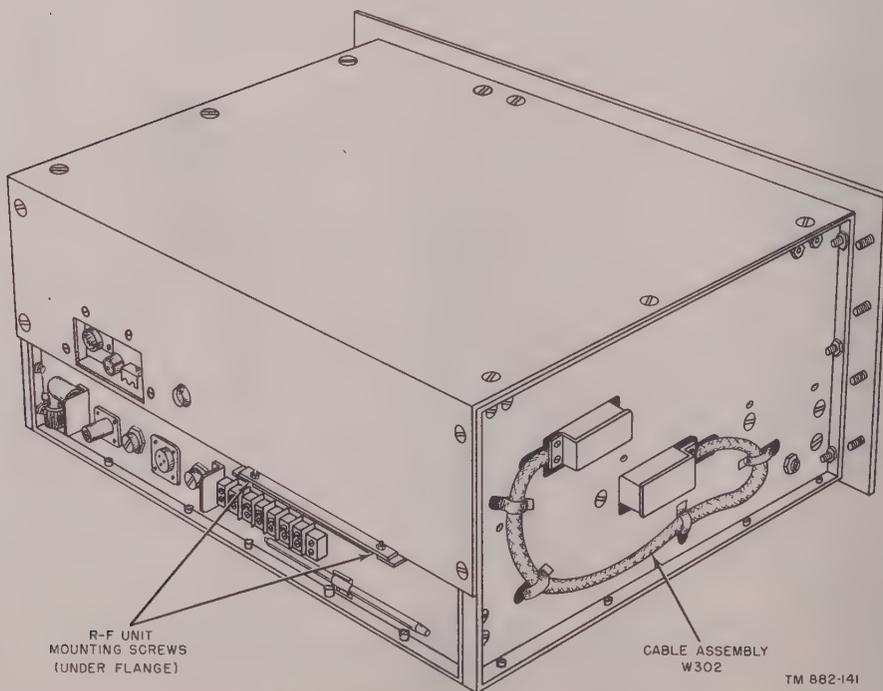

Figure 16. Radio Receiver R-220/URR, showing dust cover removal.
c. *Removal of Dust Cover* (fig. 16). A dust cover is fastened by means of 16 screws to the top and rear of the receiver. Access can be had to the alining tool and wrenches and to all controls and jacks at the rear of the receiver, while this dust cover is in place. The dust cover and base plate must be removed, however, before the power supply or the r-f unit can be withdrawn from the main unit. To remove the dust cover, release the eight screws which fasten it to the top of the main unit, the four screws which fasten it to the rear of the main unit, and the four screws which fasten it to the rear of the power supply unit. With the dust cover removed, access is also had to the rectifier tube and to the antenna adapter. To remove the base plate, release the eighteen screws which hold the base plate to the bottom of the main unit.
- (2) Remove the four front-panel screws which hold the r-f unit in place (fig. 18). Remove the two mounting screws at the rear of the r-f unit (fig. 16).
- (3) Disengage the interconnecting cable assembly, W302, from the r-f unit (fig. 16).
- (4) Free the coax cable from the r-f unit, drawing it down through the opening in the main unit.